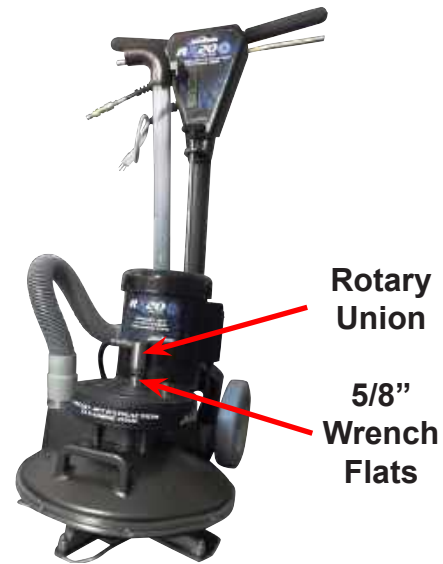

Figure 6-3. Location of Rotary Union
8. After you have loosened the head assembly, spin it off with your hands. If the cleaning head is difficult to remove, you may use a 3/4" socket wrench on the exposed center nut. To prevent the gear box from turning, insert a 5/8" wrench just below the rotary union (see Figure 6-3).